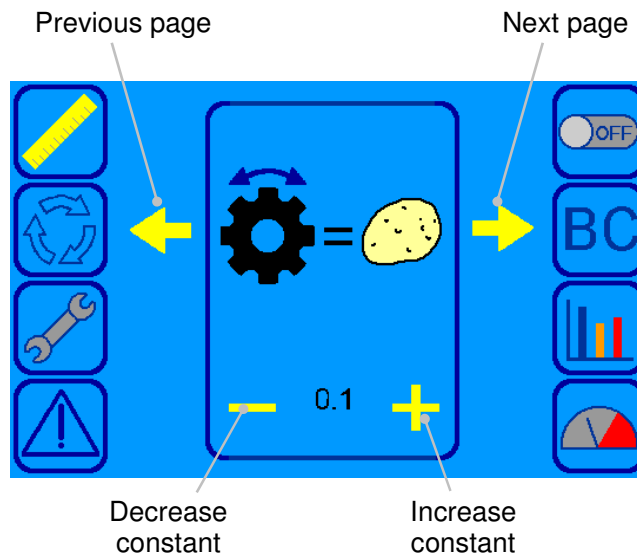

Fig 17A
1. Press the icon . The 'constant' screen is displayed (see fig 17A).